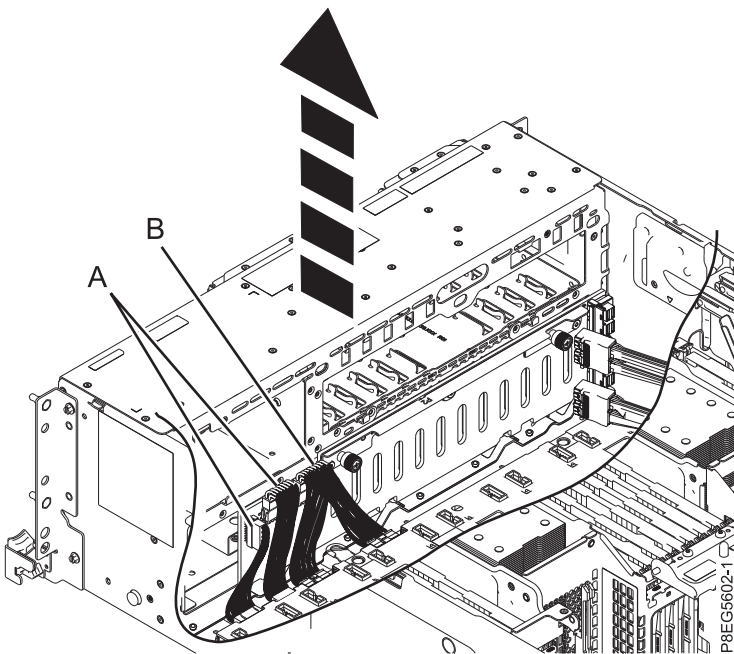

Figure 4. Removing the power, signal, and control panel cables
6. Label and remove the signal, and control panel cables (**A**), and the power Y cable (**B**), from the disk drive backplane and system backplane. Refer to Figure 4.